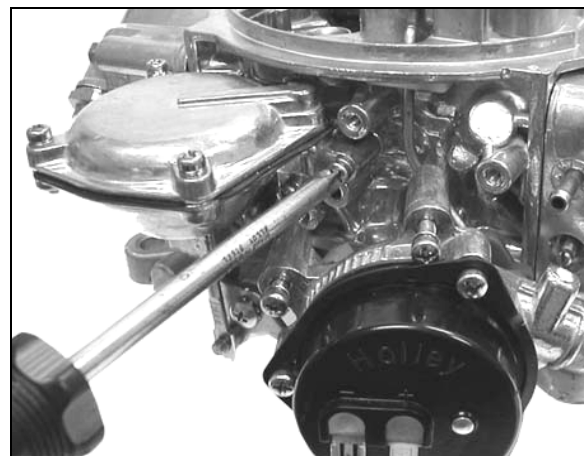

Figure 14
2. Remove three screws attaching secondary vacuum diaphragm to the main body (Figure 14).